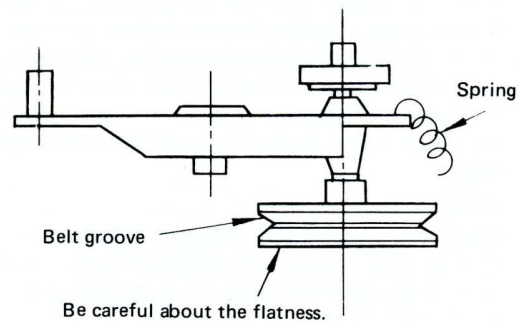

Fig. 45 Take-up arm assembly
- b. Check that the idler B (where the belt is engaged) is perfectly horizontal. (See Fig. 45.)